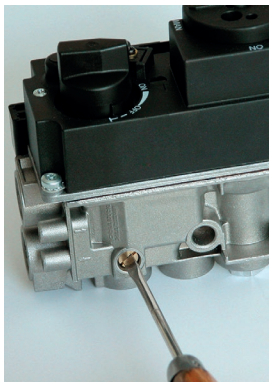

Figure 13. Adjusting method for the minimum flame height of the main burner
2. The minimum flame height of the main burner can also be adjusted by tightening the adjusting screw (Fig. 13). The adjustment screw is set so as to provide the maximum flame height.